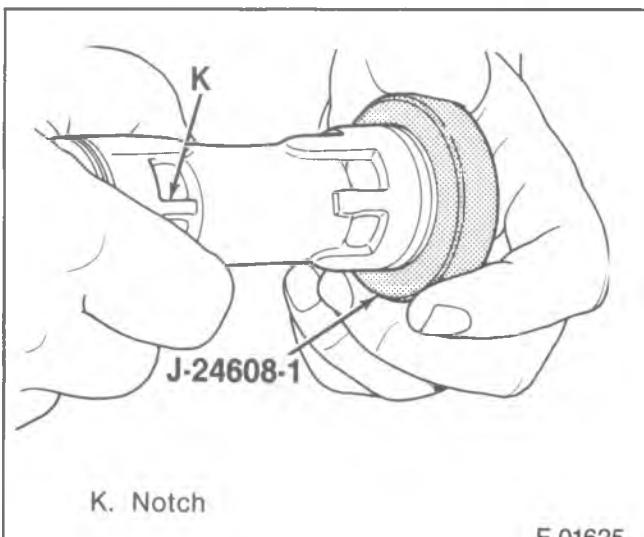

Figure 39—Gaging the Piston Ring Size
5. Piston (32) to J-24608-1 (figure 39).
- The piston (32) should pass through the ring gage with a two to eight pound force.
6. Repeat for the opposite end of the piston (32).
7. Lubricate both ends of the piston (32) with 525 viscosity refrigerant oil before installing the piston into the cylinder bore.